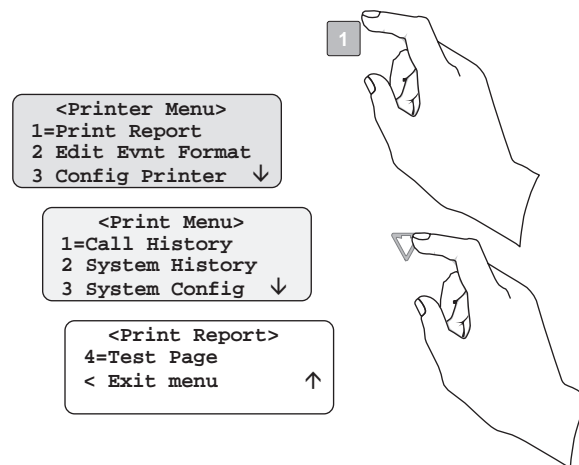

Figure 4-13 Print Report Menu Items
4. Press **1** for <Print Report Menu> (Figure 4-13).
- Press **1** for <Print Report Menu> (Figure 4-13).
4. Press **1** for <Print Report> menu (Figure 4-13).